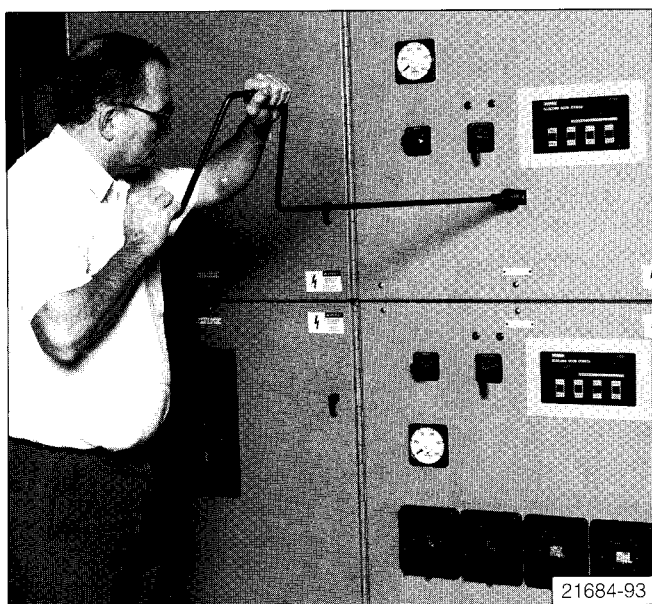

Figure 3: Racking Circuit Breaker in Switchgear.
1. Insert the racking crank on the racking screw on the front of the breaker cell, and push in. This action operates the racking interlock latch. **Figure 3** shows racking of a circuit breaker in the upper cell - the process is similar for a breaker in the lower cell.
2. Insert the racking crank on the racking screw on the front of the breaker cell, and push in. This action operates the racking interlock latch. **Figure 3** shows racking of a circuit breaker in the upper cell.